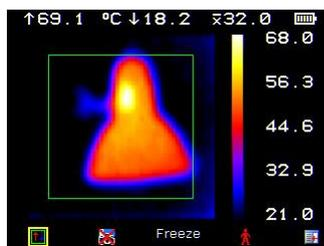

Fig. 4
7. Use the navigation buttons  to select the different area sizes. (Figs 4 to 6).